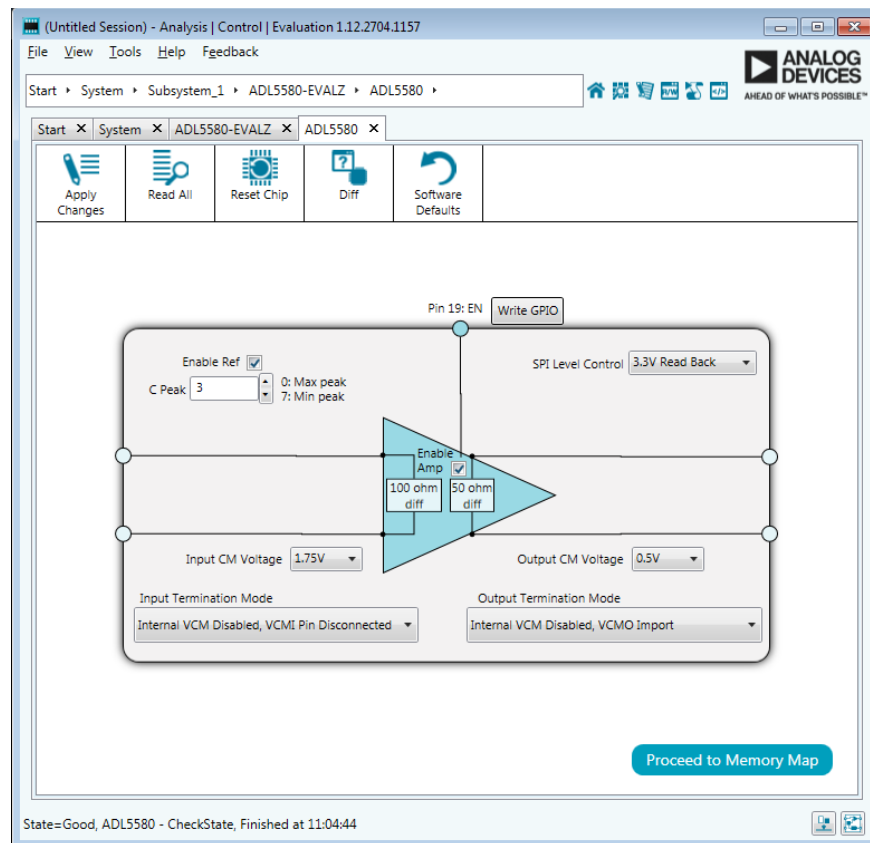

Figure 8. ADL5580 IC Level View
- Click the **ADL5580** icon to open the IC level view as shown in Figure 8.
- Ensure that the **Enable Ref** and the **Enable Amp** check boxes are selected. **Enable Ref** enables the internal voltage, and **Enable Amp** enables the amplifier section (see Figure 8).
- Under the **Input Termination Mode** dropdown menu, select **Internal VCM Enabled, VCM Pin Disconnected** (see Figure 8).
- Under the **Output Termination Mode** dropdown menu, select **Internal VCM Enabled, VCMO Pin Disconnected** (see Figure 8).
- Set **C Peak** (defaults to 3), if necessary (see Figure 8).
- Set **Input CM Voltage** and **Output CM Voltage**, if necessary (see Figure 8).
- Click **Apply Changes** for the changes to take effect (see Figure 8). Repeat the previous step to enable or disable the ADL5580-EVALZ with the hardware enabled.